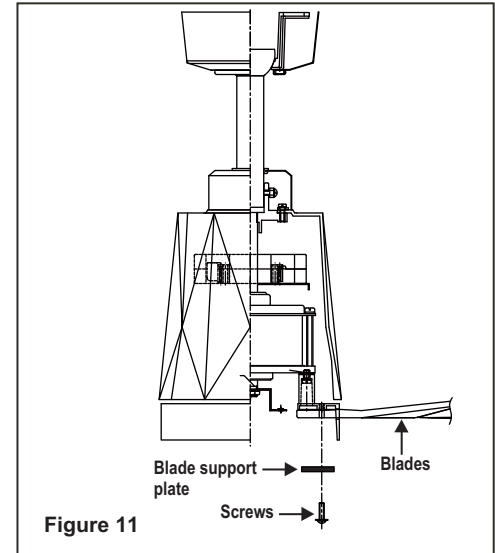

Figure 11
Step 1. Insert the blade through the slot in the housing. Align the holes in the blade and the fan motor assembly and secure with the blade support and blade screw with lock washer. (Fig. 11)